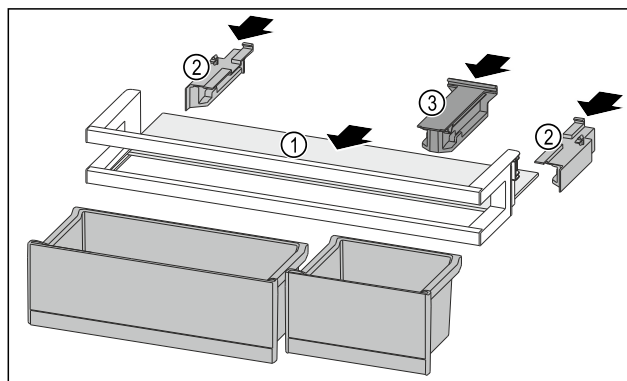

Fig. 144
- Push the shelf Fig. 144 (1) into the side recesses.
- Insert the side parts Fig. 144 (2).
- Insert the holding part Fig. 144 (3).